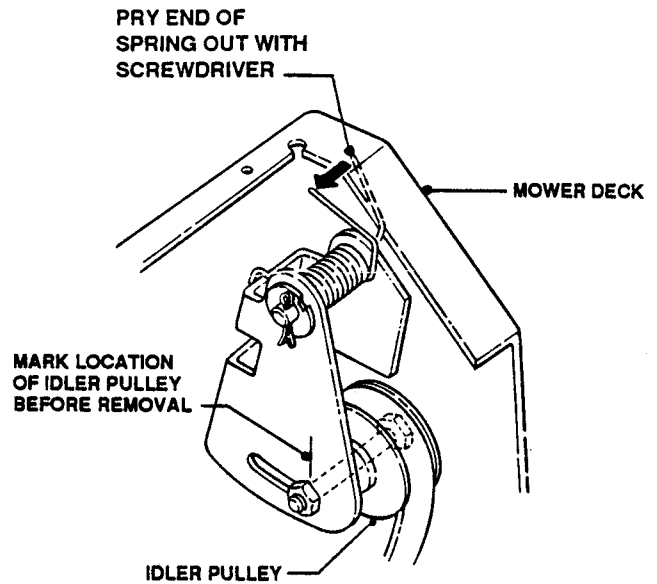

FIGURE 20
11. Release pressure on idler Torsion Spring by prying out upper end of spring with screwdriver. See Figure 20.